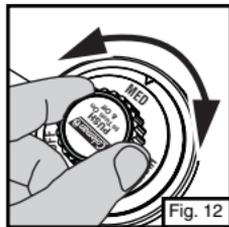

Fig. 12
- Adjust flame with regulator valve. (Fig. 12)